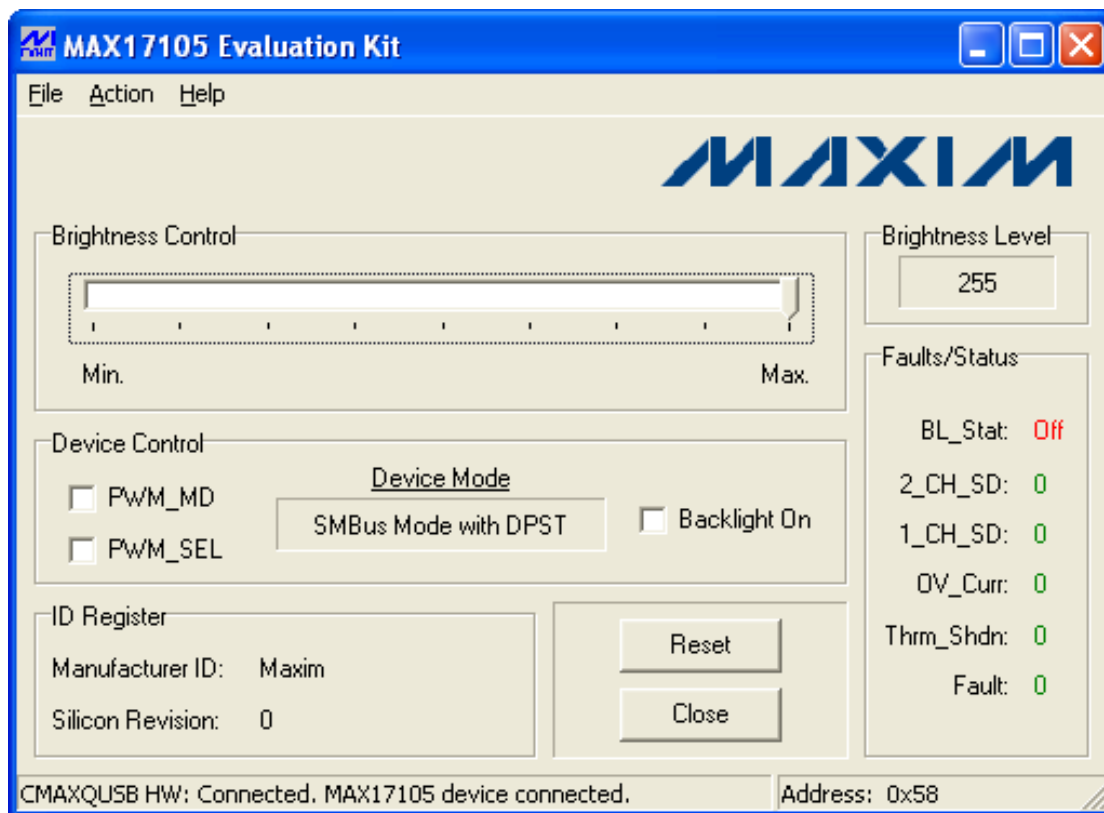

Figure 1. MAX17105 EV Kit Software Main Window
- 9) Normal device operation is verified when **CMAXQUSB Module: Connected. MAX17105 Connected** is displayed at the bottom-left side of the MAX17105 EV kit window (Figure 1).
The program's main window (Figure 1) is navigated by using a mouse or a combination of the Tab and Arrow keys. The MAX17105 EV kit software provides controls for software-configurable features: **Brightness Control**, **Device Control**, **Fault/Status** detection, and **Manufacturer ID/Silicon Revision** detection. Changes to the controls result in a write operation that updates the appropriate registers of the MAX17105. A status bar is also provided at the bottom of the program's main window and is used to verify command module and device connectivity. A **Device Search** option is available from the **Action** menu bar in case the user would like to switch from demo mode to normal operation.
There are two methods for communicating with the MAX17105, through the normal user-interface panel (Figure 1) or through the SMBus commands available by selecting the **Interface Diagnostic Window** menu item from the **Action** menu bar. The **Maxim Command Module Interface** window pops up and includes a 2-wire interface tab that allows for execution of simple I²C/SMBus commands.